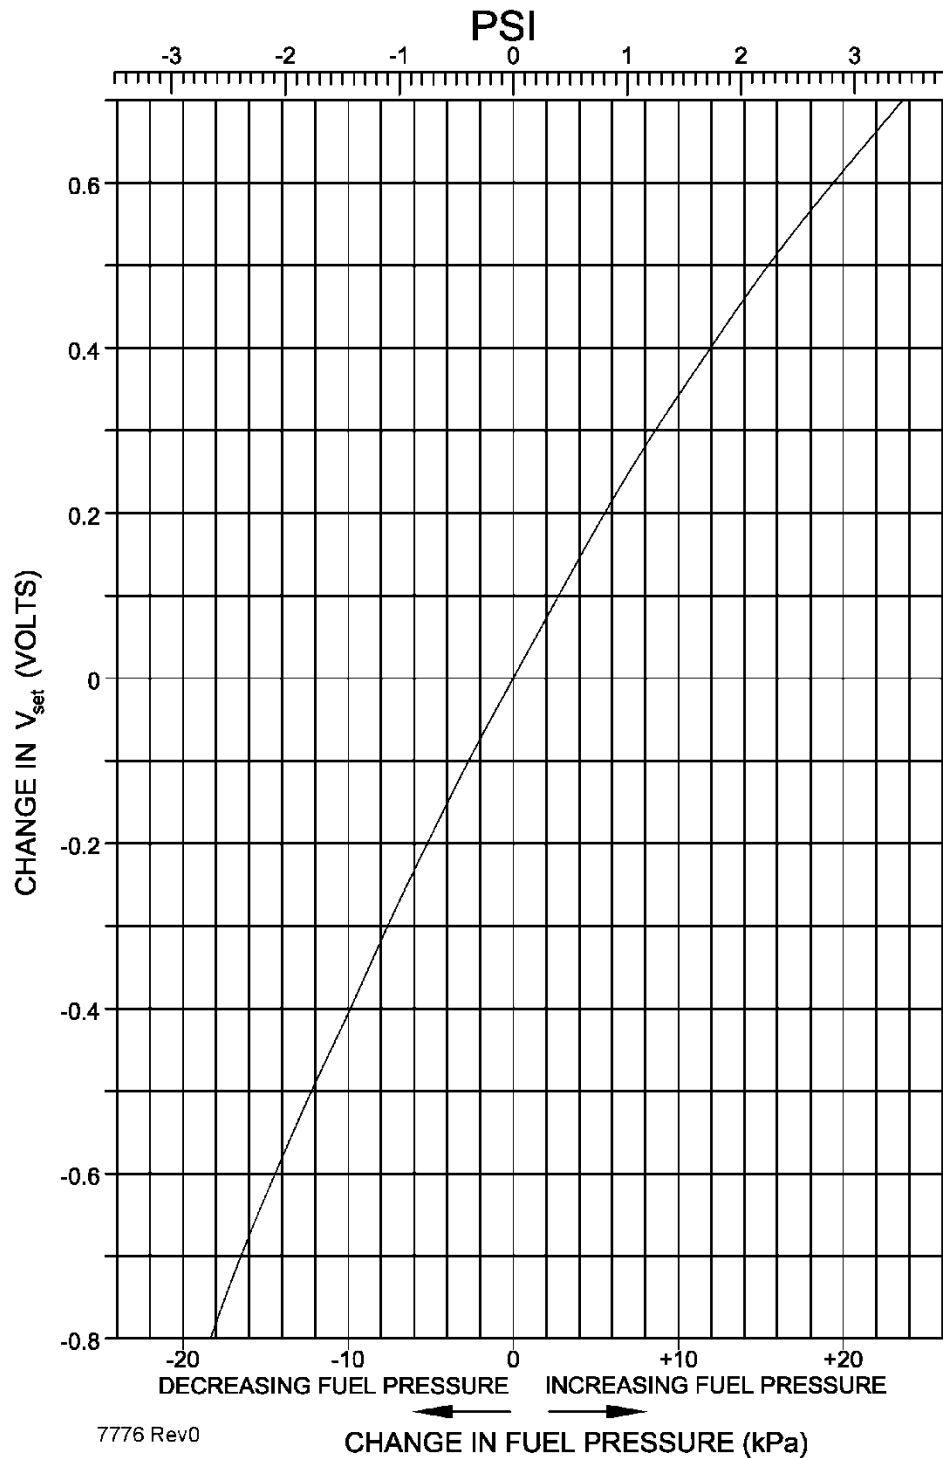

Figure 14 Fuel Pressure Versus V_{set}
To change V_{set} it is necessary to change the fuel pressure. Figure 14 shows the change in V_{set} as a function of the change in fuel pressure for a typical TEG operating at rated power. The following examples will illustrate how this curve can be used.
- 4) Determine the required change in fuel pressure from Figure 14 and record as Item 10.